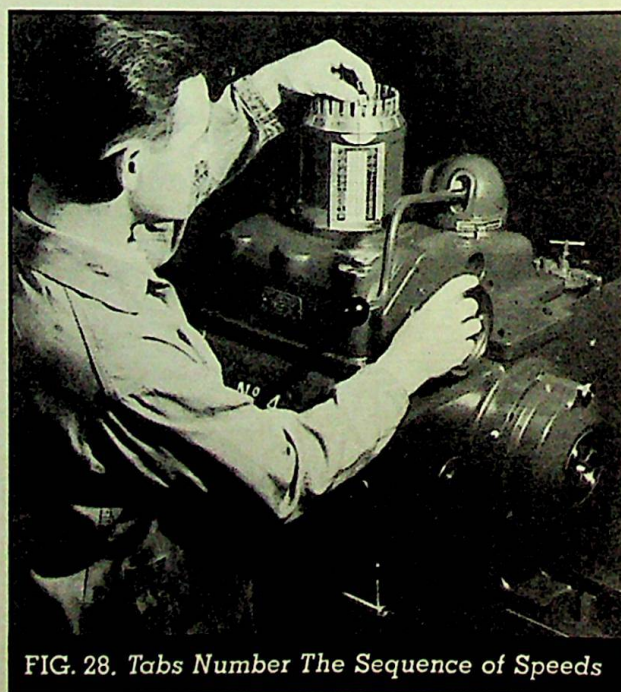

FIG. 28. Tabs Number The Sequence of Speeds
Turn the drum dial until a surface speed figure within this range appears in the window opposite the 6" diameter on the stationary chart as at (3) Fig. 26. In this particular case it would be 113 feet per minute. Insert the number tab 1 in the slot in the drum as shown (1) Fig. 26 (see also Fig. 28). In doing this you have selected and numbered the correct speed for the first cut.